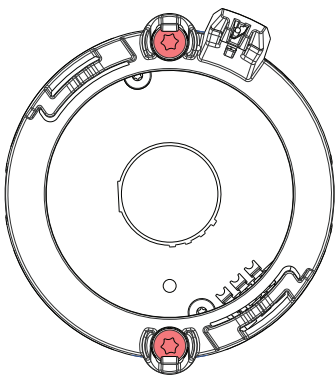

fig. 30
3. Use a T10 screwdriver to remove the 2 screws from the light engine (see fig. 30).